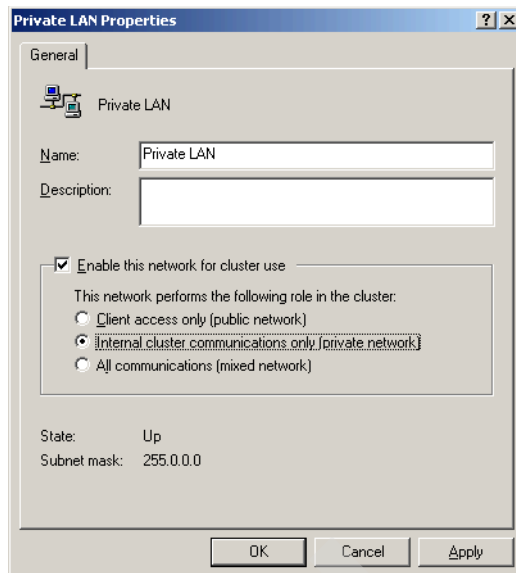

Figure 23-65 Private LAN properties
6. Select **Internal cluster communications only (private network)** and click **OK**. See Figure 23-65.